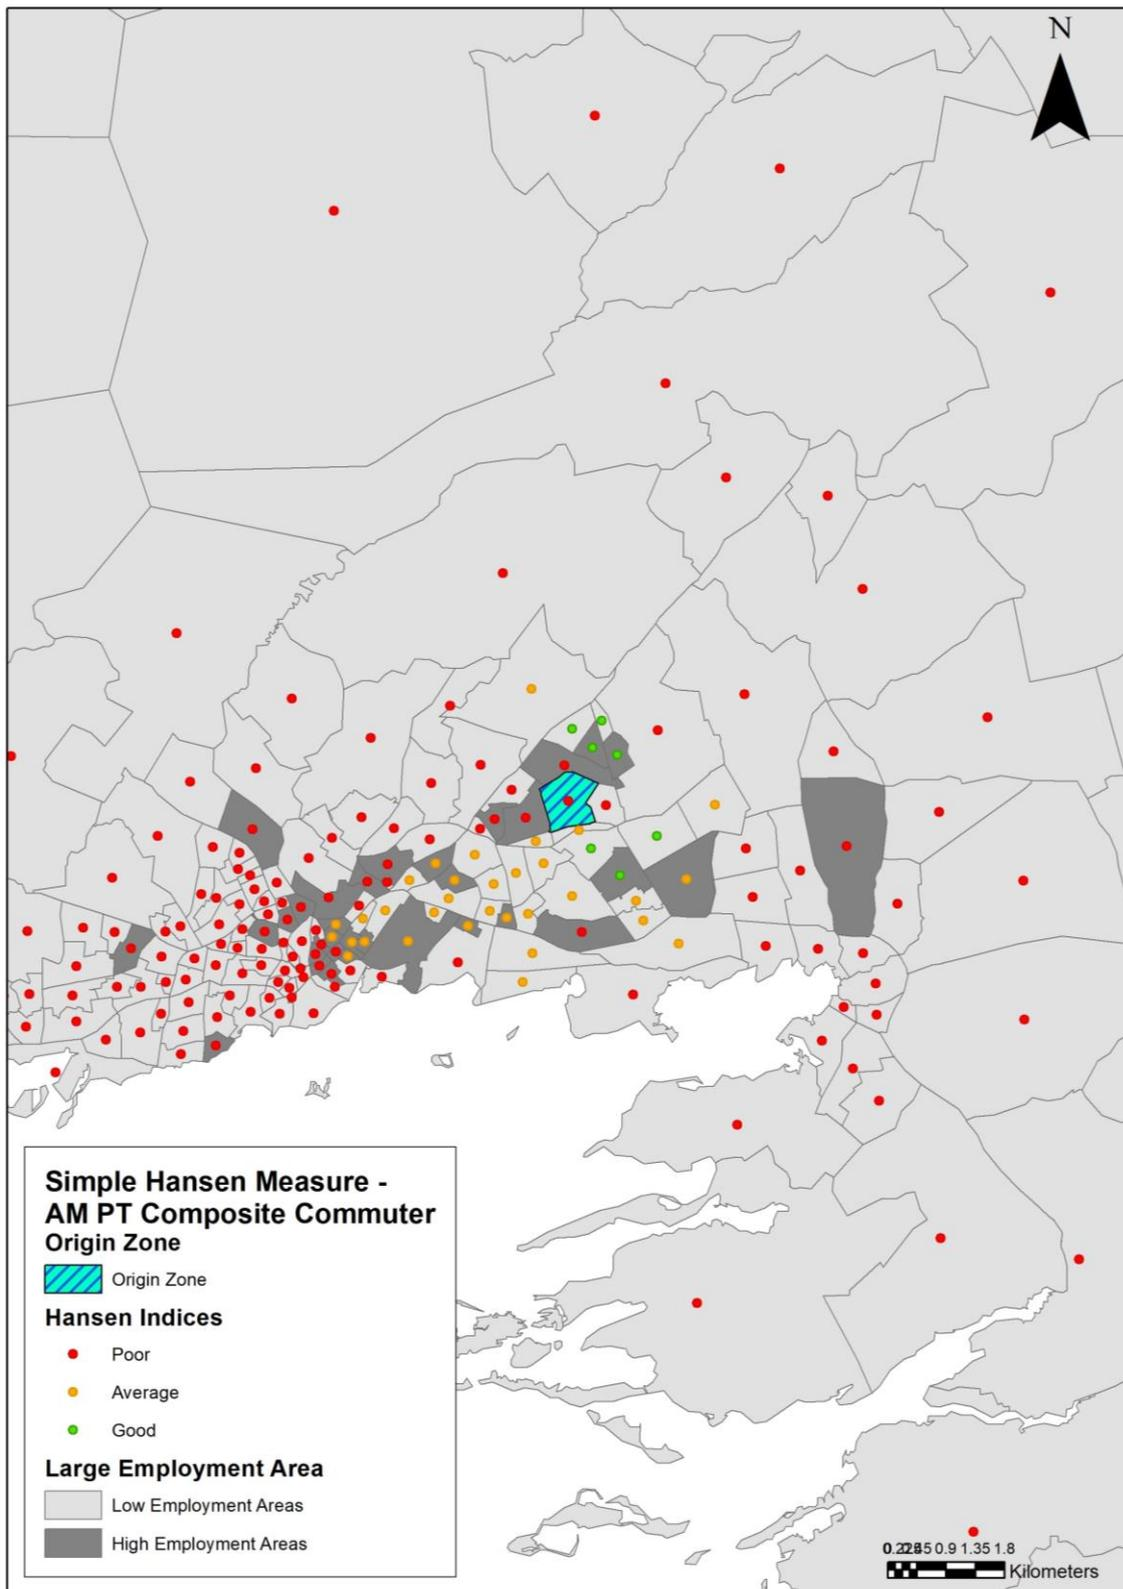

Figure 4.1 Accessibility GIS Output – Simple Hansen Measure
- 1) Open ArcCatalog as shown below in Figure 4.1
- **Figure 4.1** displays an Accessibility output showing the Simple Hansen Measure for a large employment area during the AM peak for public transport commuters for a zone in the South West Regional Model.